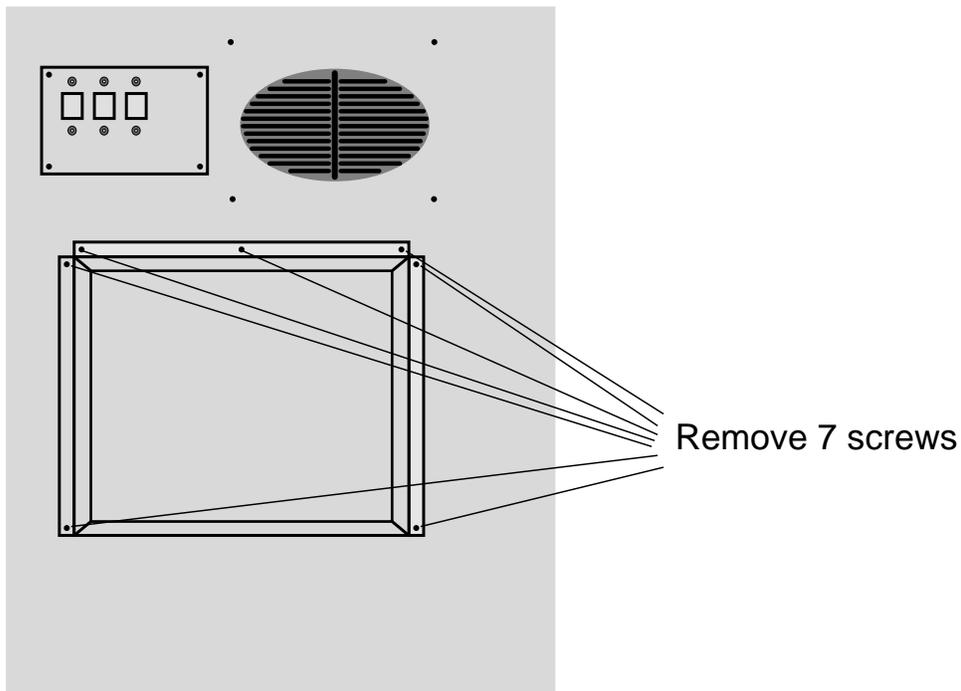

Figure 8-5. Where to Attach the Tip/Ring Distribution Panel
7. Remove the seven screws that secure the distribution panel cover. This cover is located in the center of the rear of the MAP/100 and extends approximately 1-1/2 in. out from the chassis (Figure 8-5).